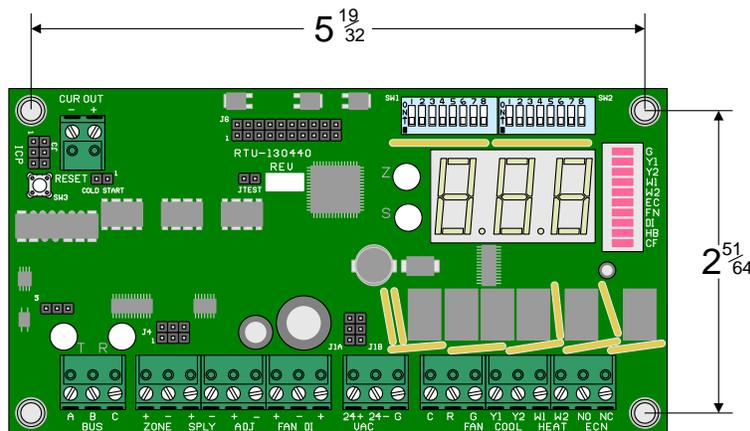

Figure 2: Location of Mounting Holes
Step 1: To mount the RTU onto HVAC equipment, drill four 5/32” diameter holes in a rectangular pattern measuring 2 51/64” (71mm) by 5 19/32” (142mm) (Figure 2).